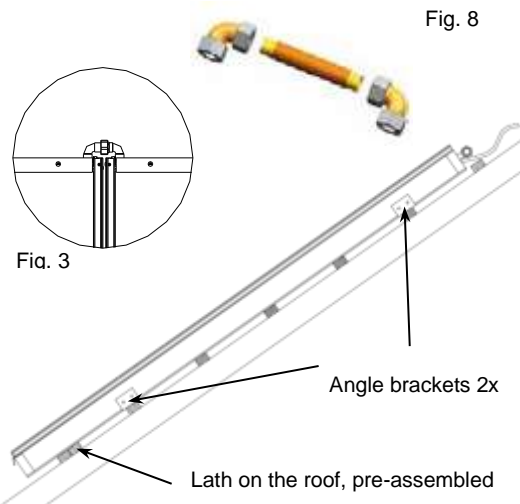

Fig. 8
5. The hydraulic connection is made by connecting the unions between the collectors (see Fig. 3 for topSol 22 and Fig. 8 for topSol 22M).